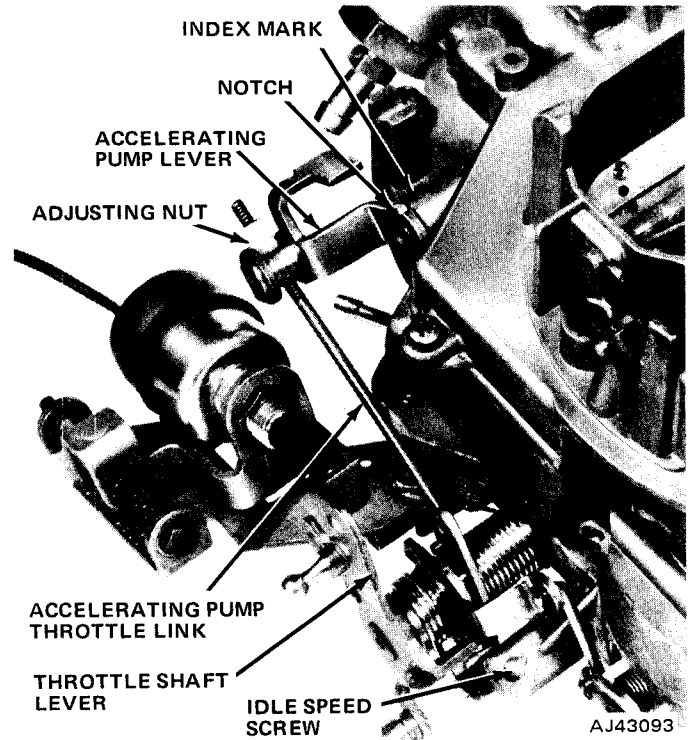

Fig. 4-84 Accelerating Pump Adjustment
- (1) Back out idle speed screw until primary throttle plates seat in bore.
- (2) Turn accelerating pump throttle link adjusting nut until the notch in the pump lever is aligned with the index mark on the air horn (fig. 4-84).
- (3) Adjust by loosening the locknut and turning the dashpot.